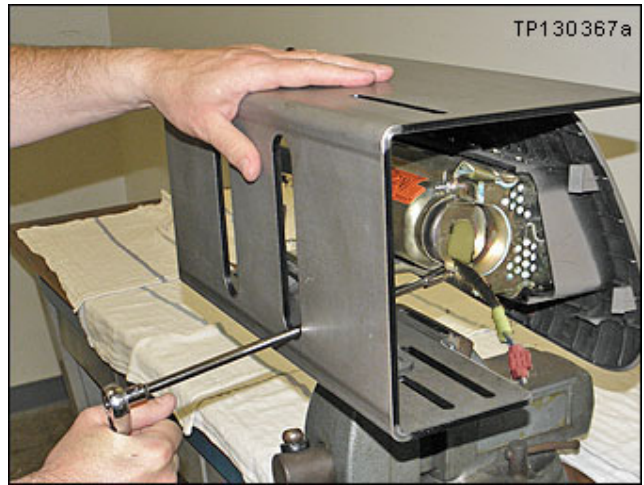

Figure 16
23. Remove the 4 nuts from the module that hold the inflator in place (see Figures 16 and 17).